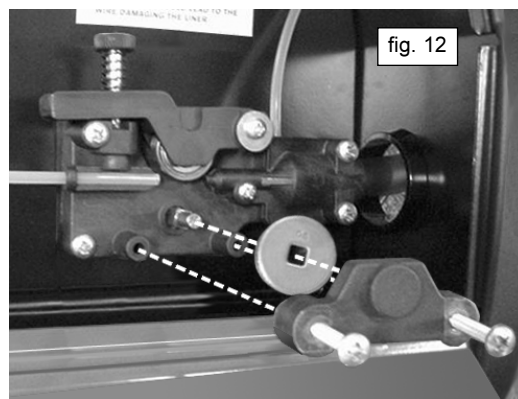

fig. 12
**6.3. Turning feed roller *IMPORTANT:*** Turn the feed roller to suit the wire size. There are two grooves on the feed roller, 0.6mm and 0.8mm. Always have the groove that is being used on the outside of the roller (nearest to you). To turn the feed roller, undo the two screws and remove the plastic cover (fig.12). Clean and turn the feed roller and then replace the plastic cover.